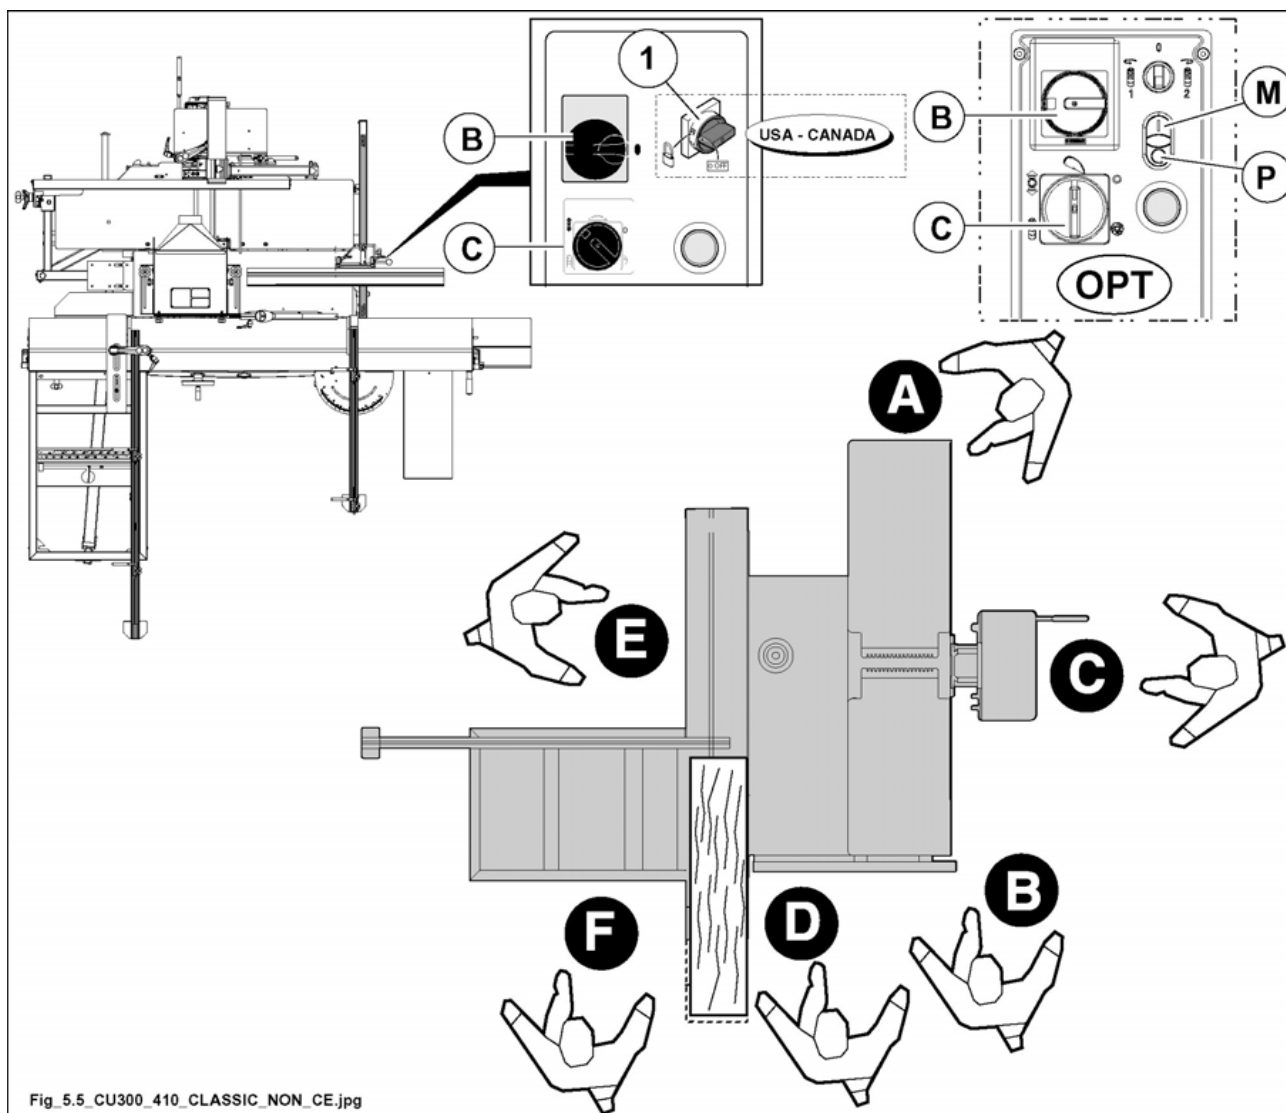

Fig. 5.5
- (U.S.A. and CANADA) Main switch (1 fig. 5.5) is turned to I (ON).
- Move the selector switch (C fig. 5.5) in the chosen working position.
- Set the selector of the magnetothermal switch (B fig. 5.5) to position "I".
- Press the (M fig. 5.5) button.
- Set the selector of the magnetothermal switch (B fig. 5.5) to position "0".
- Move the selector switch (C fig. 5.5) to position "0".